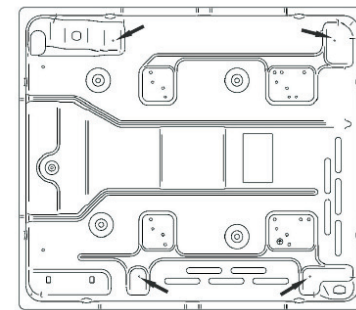

Fig. 1C
- To assemble, attach the 4 clamps to each corner of the Burner box via the screws provided (Fig.1C).